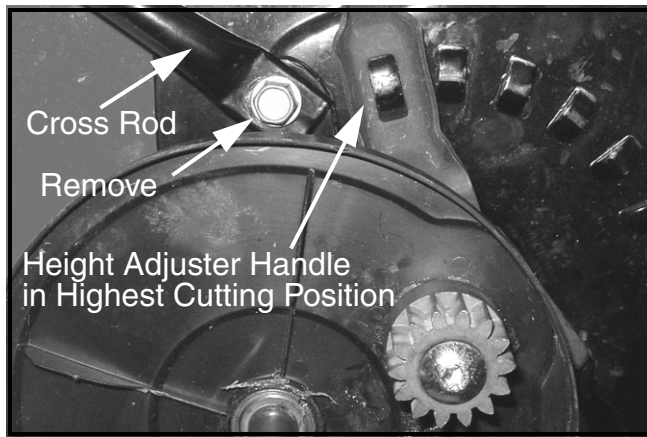

FIGURE 4
12. Using a 3/8" socket and ratchet, remove the self-tapping screw and spacer securing the cross bracket (front to rear height adjusted rod) to the pivot bracket assembly. See Figure 4.